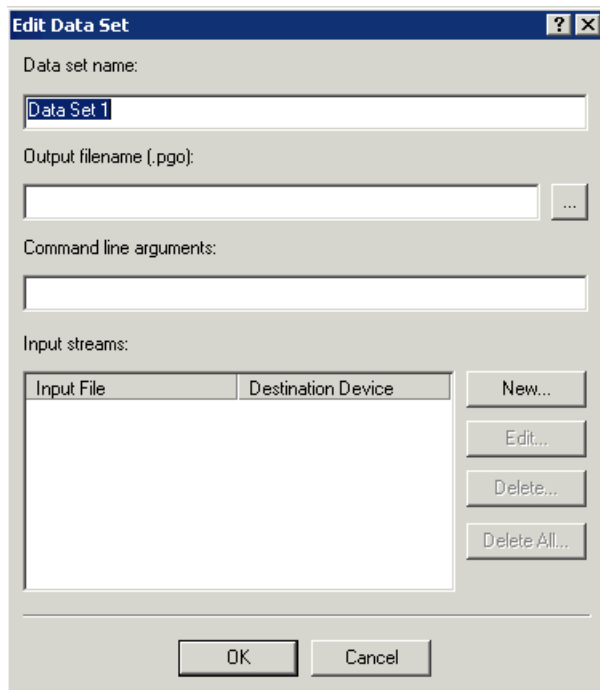

Figure 3-3. Edit Data Set Dialog Box
- Click the **New** button to open the **Edit Data Set** dialog box, shown in Figure 3-3.